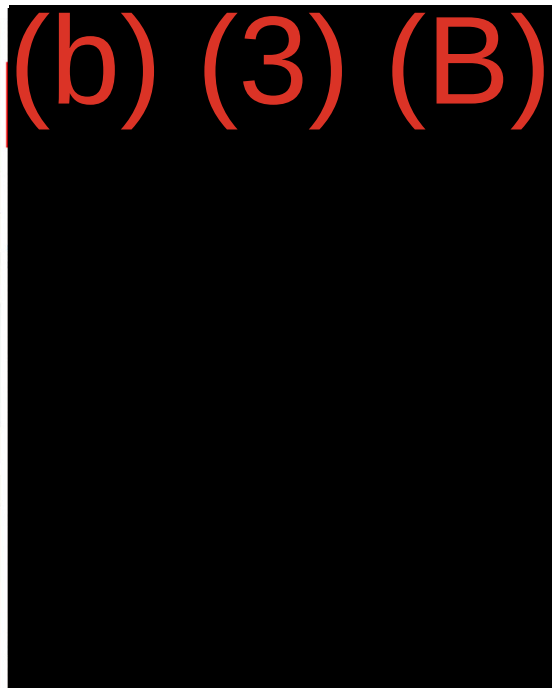

Figure 2-4 Sample Chlorine Monitoring Equipment
- Calibration column: A volumetric cylinder used to check the accuracy of a chemical metering pump or feed system by measuring how much volume is dispensed. *Figure 2-4* illustrates an example.
- Chlorine residual analyzer: An instrument that automatically measures the amount of free available chlorine (FAC) in water. *Figure 2-4* illustrates an example.
- Metering pump: A device designed to deliver repeatable and adjustable volumes of liquid. The flow rate can be controlled by changing either the pump speed or the piston stroke length. *Figure 2-4* illustrates an example.
- Speed controller: A device that changes the metering pump speed. *Figure 2-4* illustrates an example.